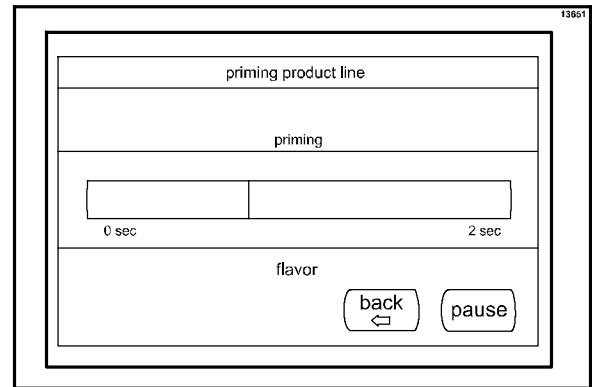

Figure 115
65. Press the NEXT key to prime the product lines. The PAUSE key can be used to stop and restart the process. (See Figure 115.)